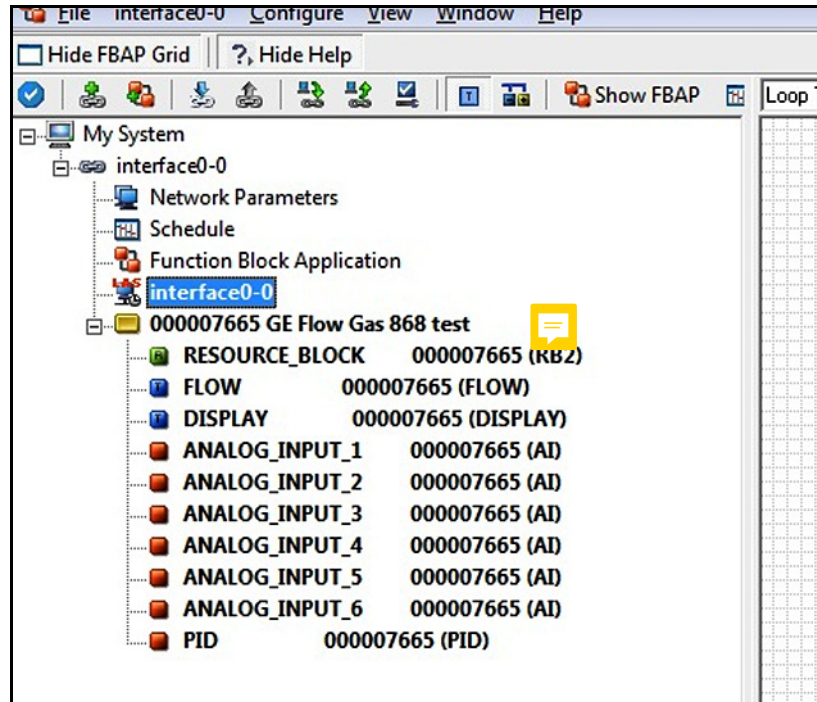

Figure 48: Configuration Utility Setup Example
Figure 48 below shows the Configuration Utility with a flowmeter on the network (Panometrics Flow-XMT).
1. Double click on the AI block for which you wish to set the units (in the tree under GEFlow-XMT; see Figure 48 on page 66).
1. Double click on the FLOW transducer block (in the tree under GEFLOW-XMT; see Figure 48 on page 66).